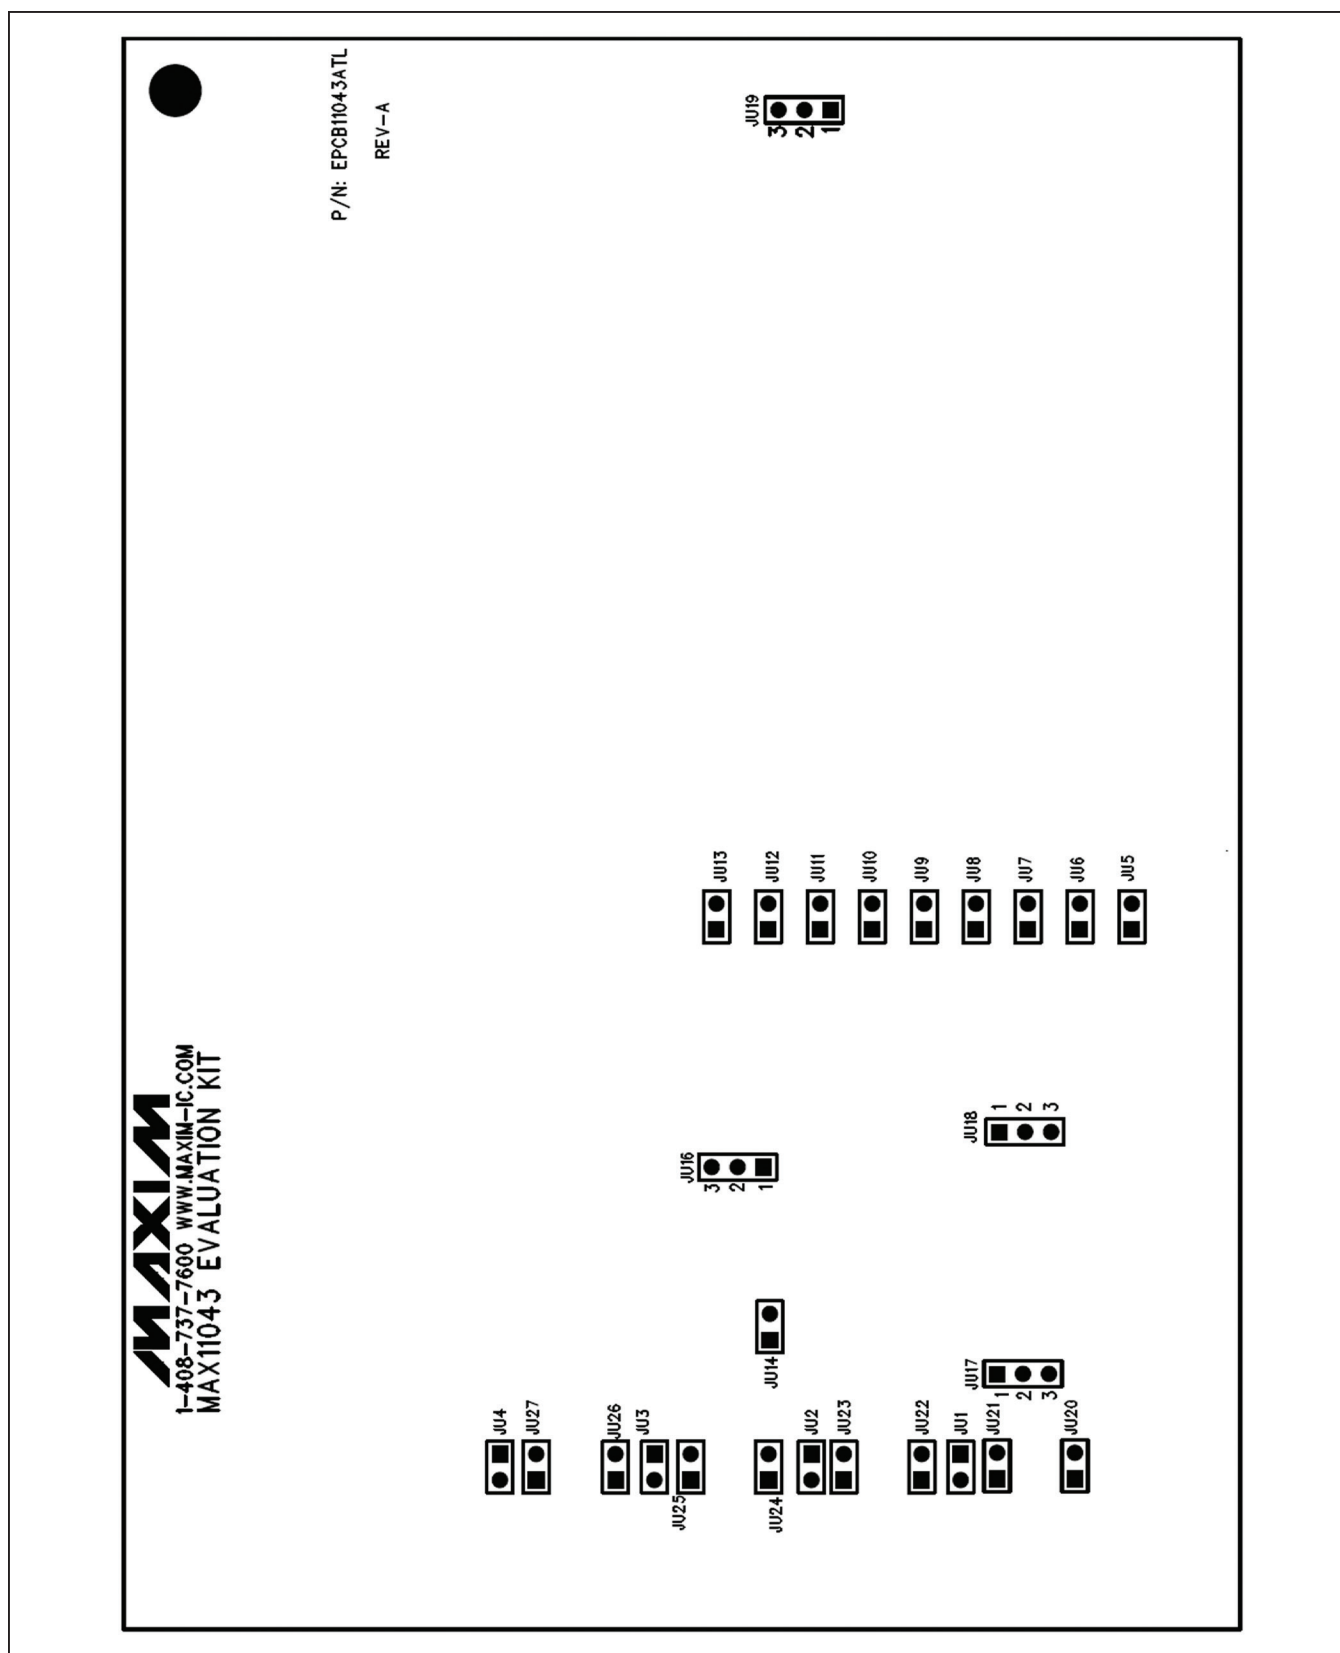

Figure 1. MAX11043 EV Kit Jumper Locations
- 3) Verify that the jumpers on the EV kit board are in their default positions, as shown in Table 1. The jumper locations are shown in Figure 1.